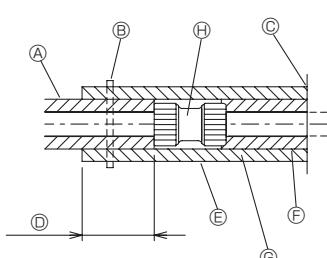

Fig. 4-11
2. Insulate the joint section and exposed section of the piping after connecting the piping. (Fig. 4-11)